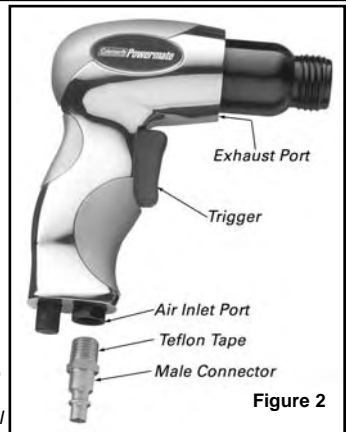

Figure 2
- Install a 1/4" NPT male connector (not included) into the air inlet port on the tool (see Figure 2). **Note: Use Teflon® Tape on all threaded connections.**